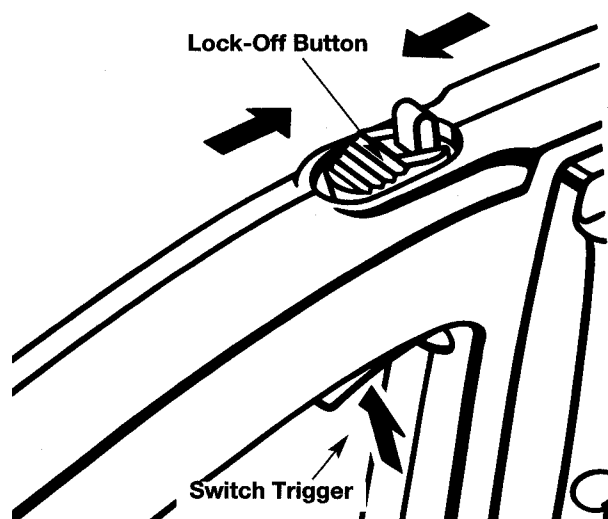

Fig. 3
1. Slide the lock-off button forward (Fig. 3).